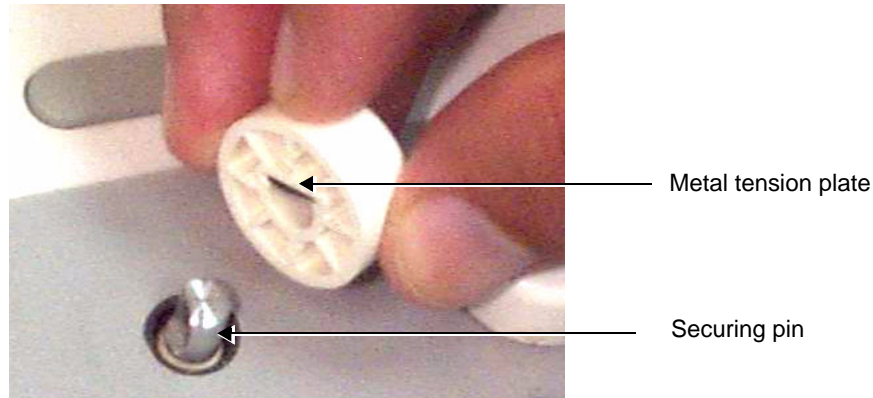

**Figure 8-41 Rotary Knob Replacement**
- 3.) Lift off and remove the defective knob - see Figure 8-41 below.